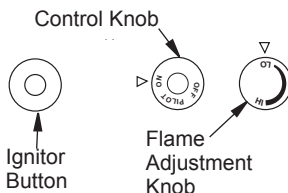

Figure 53 - Control Knob and Ignitor Button Location
3. Press in and turn control knob clockwise  to the OFF position (see Figure 53).
- Wait five (5) minutes to clear out any gas. Then smell for gas, including near the floor. If you smell gas, STOP! Follow B in the safety information, page 26. If you don't smell gas, go to the next step.
- Press in and turn control knob counterclockwise  to the PILOT position. Press in control knob for five (5) seconds (see Figure 53, page 27).